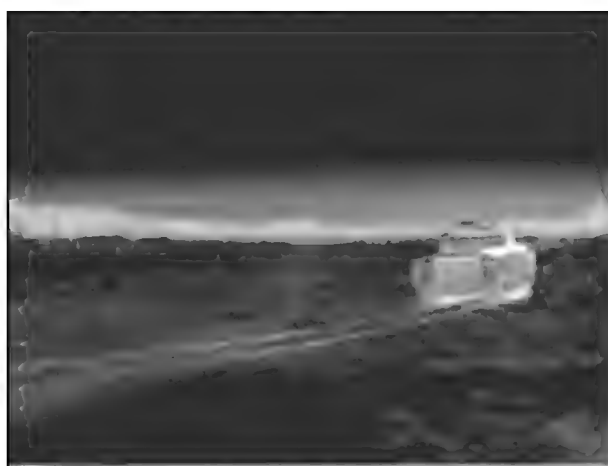

Figure E-33. Road temperature increases due to friction from vehicle tracks.
- Human activity. Human activity has an effect on the amount of IR in objects in the target scene, which disrupts the natural changes that should occur in their IR images. For example, at night, vehicles and asphalt roads should appear dark green. When a vehicle is driven for a while, it appears bright green around the engine, exhaust, and suspension as a direct result of human activity. When enough vehicles drive on a road, it will appear as light green where wheel or track friction causes the road surface temperature to increase (Figure E-33).